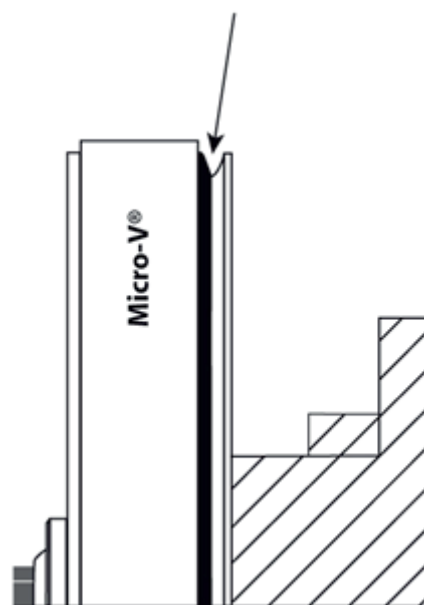

FIG. 2
- power steering pump is electrically driven (not included in the belt drive): free pulley groove is nearest groove to the engine (Fig. 2)
- free pulley groove is groove nearest to the engine (Fig. 2)
- free pulley groove is nearest groove to the engine (Fig. 2)